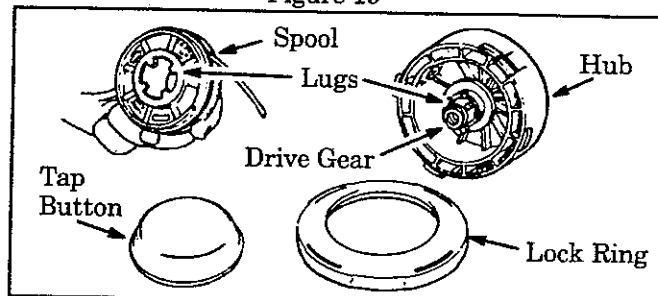
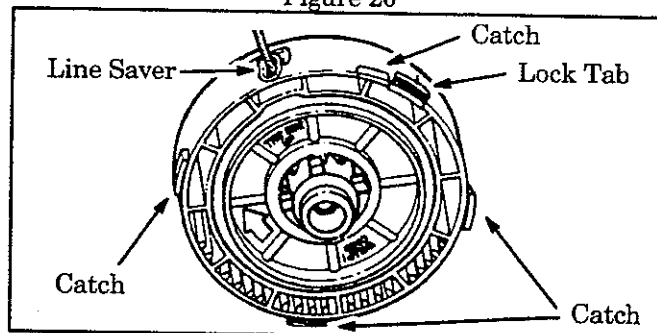

Figure 20
Figure 21
- b. Remove the lock ring, tap button, and spool. Figure 20.
NOTE: The aluminum line saver (Figure 21) can become worn during use. After a groove is worn into the line saver, remove it from the trimmer head, turn it upside down, and reinstall it (with the spool removed) to provide a new wear surface.
- e. Insert the end of the line through the line saver. Figure 21. Place the spool in trimmer head. Press the spool down, then turn it enough to lock the lugs on the spool under the lugs on the drive gear. Figure 20.
- f. Replace the tap button. Align the lock ring over the catches on the hub; push the lock ring down on the hub and turn it clockwise until the catches lock into place. Figure 21.